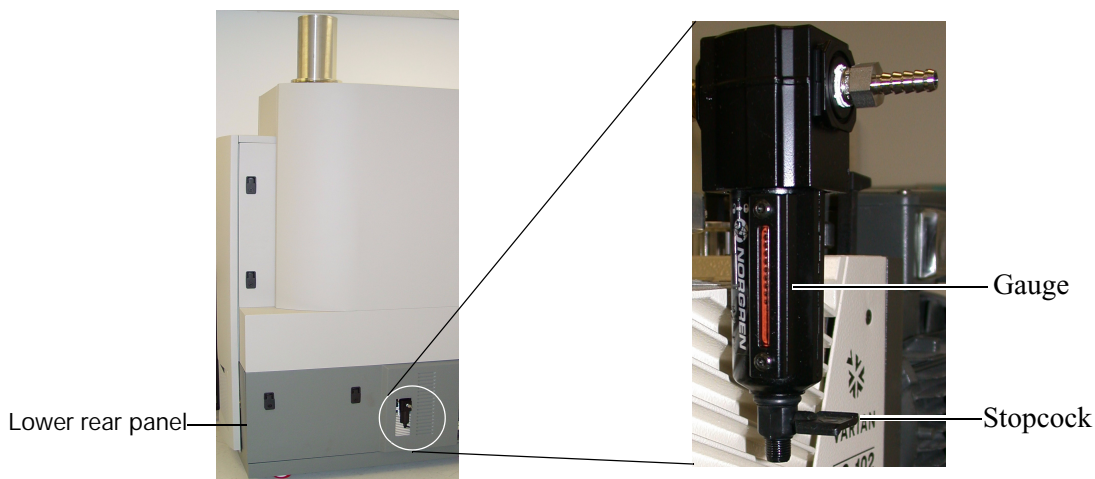

Figure 5-1 Oil mist filter on the 4800 instrument rear panel
2. If necessary, move the system so you have access to the rear panel (Figure 5-1).